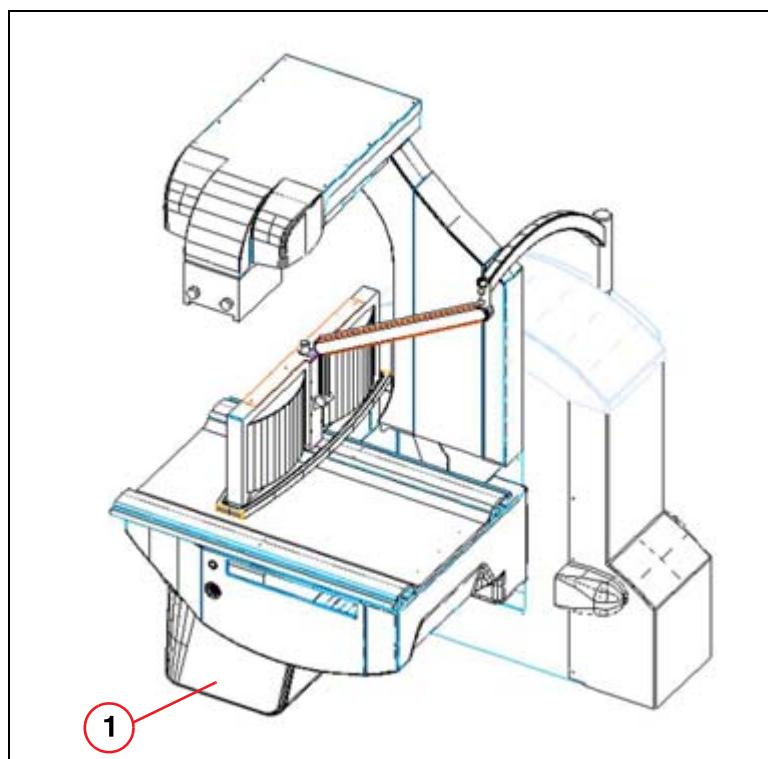

Fig. 16: I.I. collision protection
- Press the I.I. contact safety device (1/Fig. 16 / p. 37).